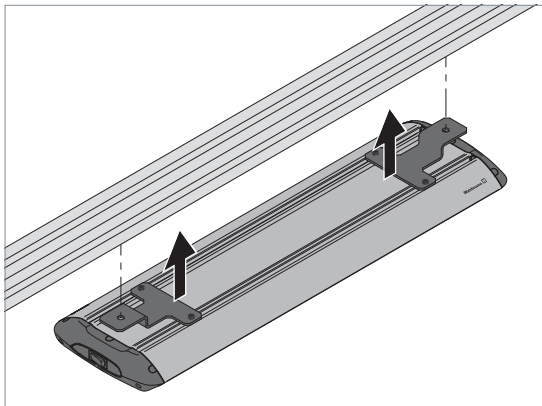

Fig. 8: Mounting the luminaire of mounting type "Top, fixed", 1st option.
- ▶ Mount the luminaire on the mounting surface using suitable screws and tighten the screws, see Fig. 8 or see Fig. 9.